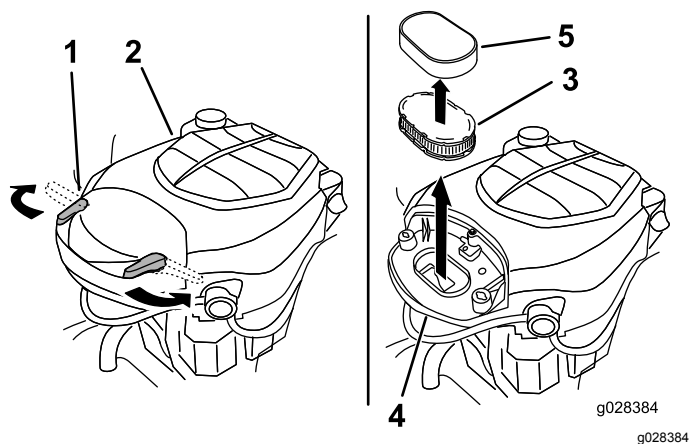

Figure 29
2. Remove the cover to access the air-cleaner element (Figure 29).
10. Install the cover, and secure it with the latches (Figure 29).